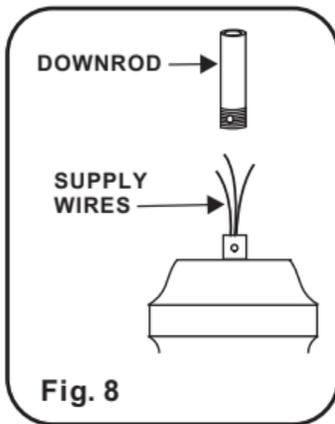
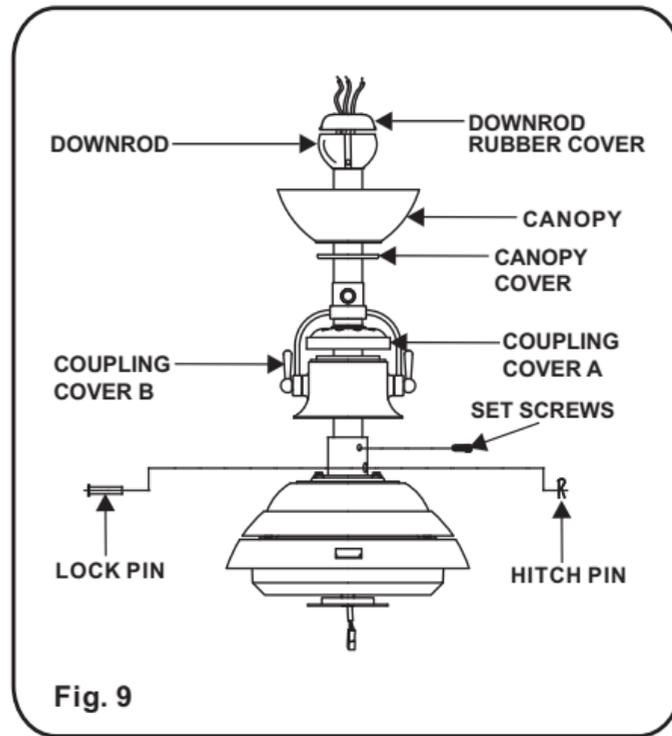

Fig. 8
Fig. 9
Step 4. Carefully feed fan wires up through the downrod. (Fig. 8) Thread Downrod into the Coupling until the holes are lined up and secure with the Lock Pin and Hitch Pin previously removed, tighten Set Screws. (Fig. 9)
Step 5. Slip coupling cover B, coupling cover A, canopy cover and canopy onto downrod. (Fig. 9) Carefully reinstall hanger ball onto rod being sure that cross pin is in correct position, set screws are tighten and wires are not twisted.
Step 6. Place downrod rubber cover onto the hanger ball. (Fig. 9)